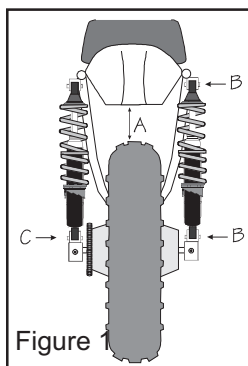

Figure 1
- Install one shock (without springs) and check clearance "A" in figure 1.
- If clearance "A" in Figure 1 is ok, you can now install the spring onto the shock (Note: This step requires a spring compressor tool. If a tool is not available, refer the work to your local dealer or repair shop. Do not attempt to compress the springs without the proper tool as serious injury may result!). The PS Magnum Shock/Spring tool is available from your local dealer, our part number 32-5503.